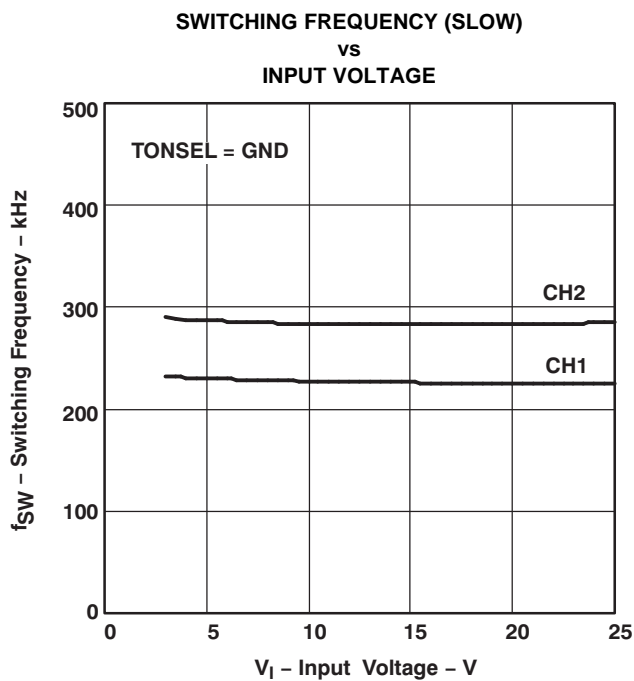

Figure 6. (1)
(1) The data of Figure 6–Figure 8 are measured from the Typical Application Circuit of Figure 25 and Table 2.